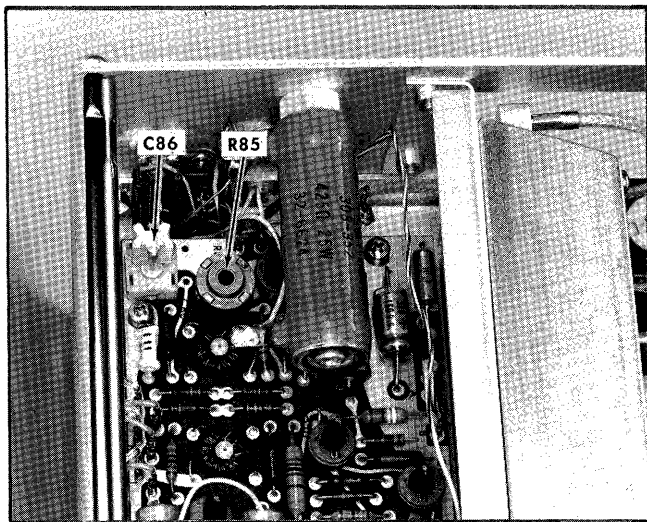

Fig. 6-13. Location of mixer balance adjustments.
c. Adjust R85 and C86 (Fig. 6-13) for a 0 Hz signal amplitude between 1 and 4 cm. Change the value of select capacitor C87 if necessary.